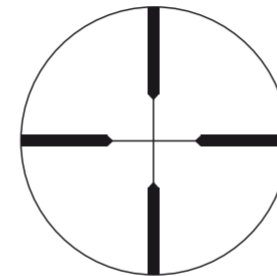
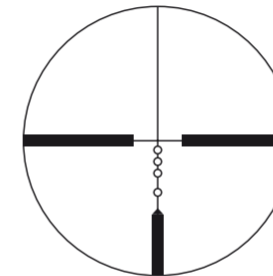
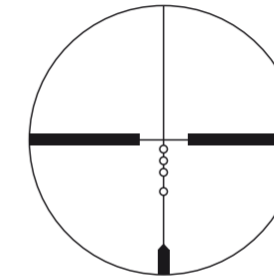
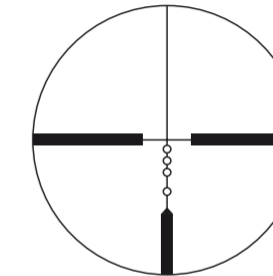

Fig. 3-1
Fig. 3-2
Fig. 3-3
Fig. 3-4
(1) Focusing
- 1 Look through the eyepiece with your eye positioned about 10cm (4 in.) away from the eyepiece lens, and you will see either the Nikoplex (Duplex) reticle (Fig. 3-1), the BDC reticle (Fig. 3-2), BDC 200 reticle (Fig 3-3) for 2-7×32 Shotgun Hunter, or BDC150 reticle (Fig 3-4) for 3-9×40 Rimfire depending on your purchased product. Be sure your eye is positioned within proper alignment and proper eye relief, otherwise the view will “black out.”